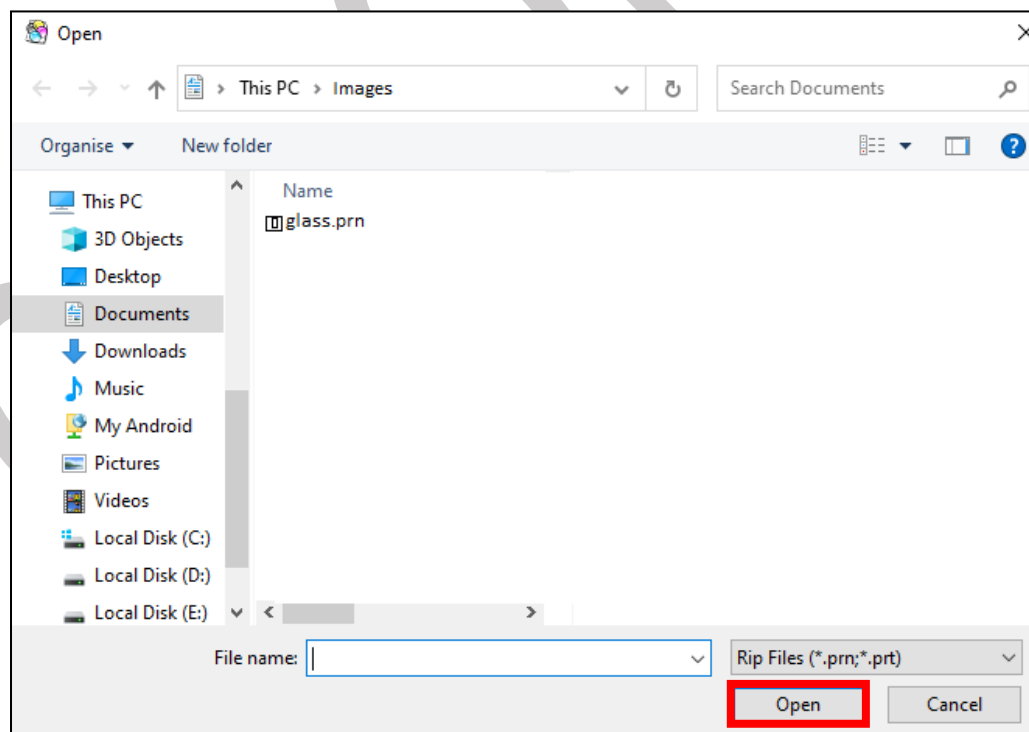

Fig 37: Adding the Job
**Step 2:** Navigate to the location where the image file with extension “.prt” and “.prn” is stored (Refer to Fig 37).